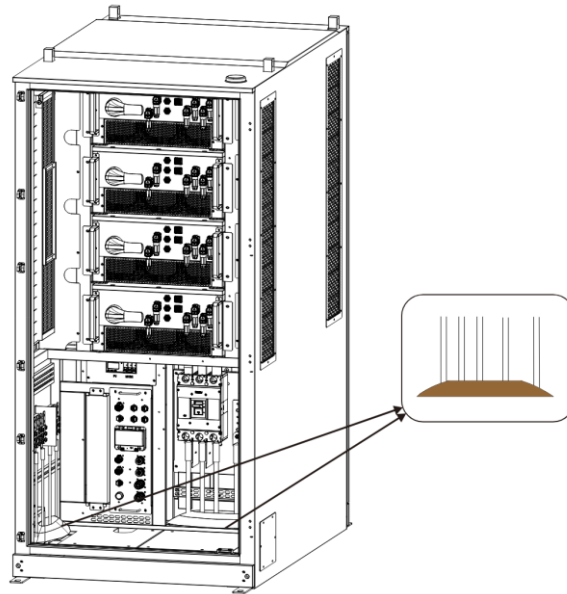

Figure 4-16 Seal the wiring hole
■ **Figure 4-16** Install the silicone coil